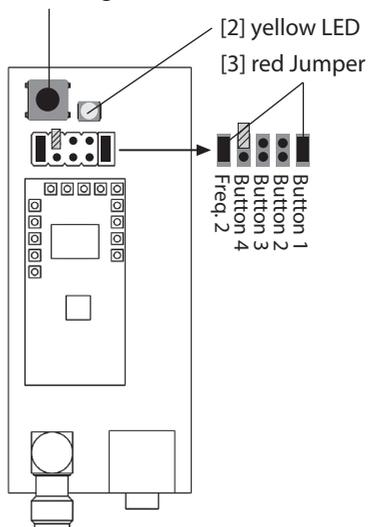

Fig. 4: Frequency 2 selected and Button 1 activated, Jumper on Button 4 inactive (stored).
*Figure 4* shows a receiver that is set on the second frequency.